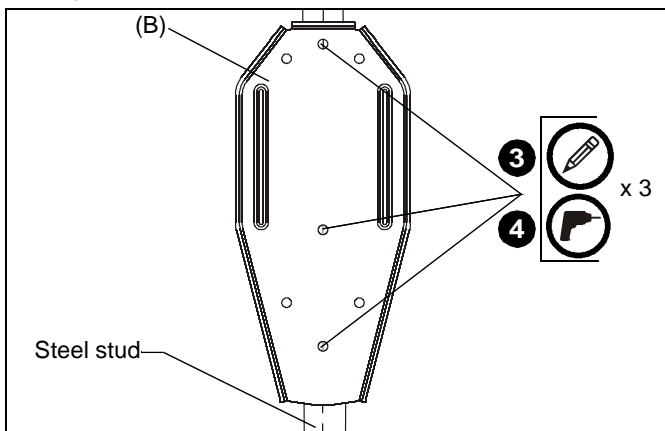

Figure 5
2. Line up inner three holes on wall bracket (B) with center of stud at desired mounting location. (See Figure 5)
3. Using wall bracket (B) as a template, mark three holes at inner three holes in bracket. (See Figure 5)
4. Drill three 1/2" holes at marked locations in wall. (See Figure 5)